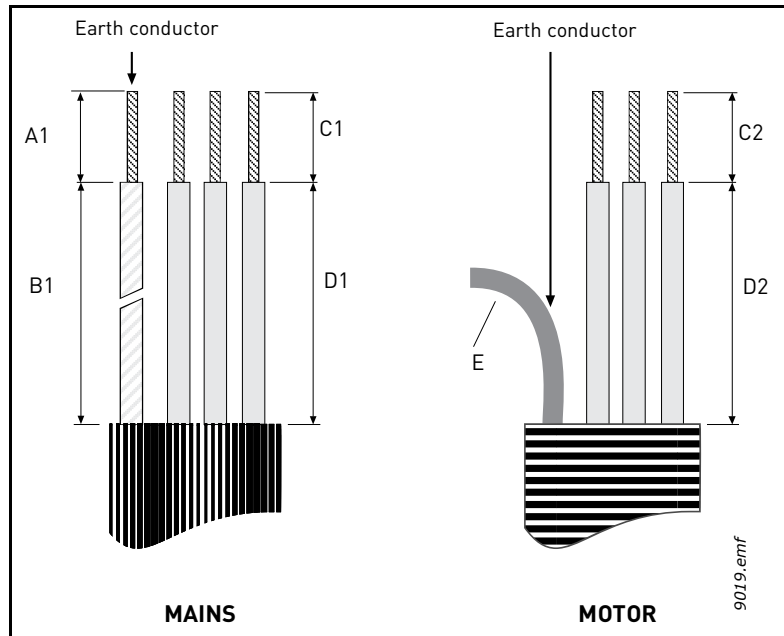
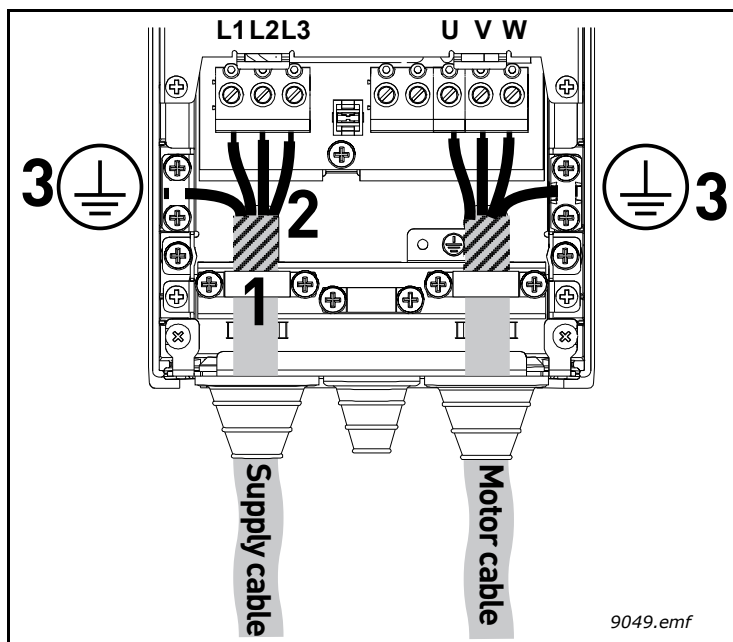

Figure 22. Stripping of cables
Figure 29.
- Connect the stripped cables (see Figure 22 and Table 19) as shown in Figure 29.
- Expose the shield of all three cables in order to make a 360-degree connection with the cable clamp (1).
- Connect the (phase) conductors of the supply and motor cables into their respective terminals (2).
- Form the rest of the cable shield of all three cables into “pigtailed” and make a grounding connection with a clamp as shown in Figure 29 (3). Make the pigtailed **just long enough** to reach and be fixed to the terminal - not longer.